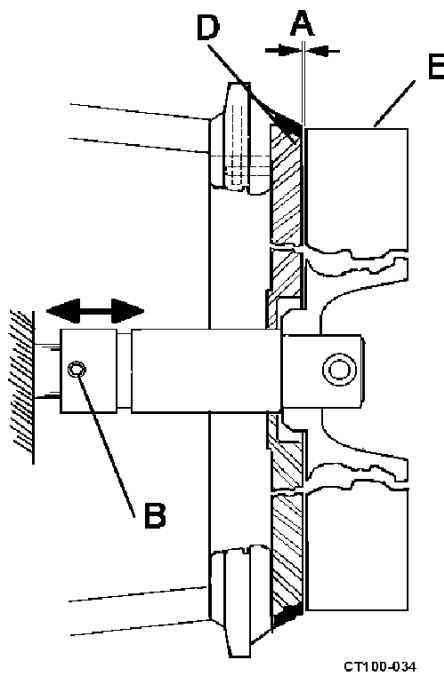

Figure 23 - Setting Backplate/Impeller Clearance
6. Slide the impeller onto the shaft. Hold the impeller tight against the shoulder in the shaft and rotate the shaft one-quarter turn until the impeller pin engages with the impeller. See Figure 23 on page 22.
1. Place a 0.060 ± 0.010 (1.52 mm \pm 0.25 mm) feeler gauge between the front face of the backplate and the impeller. (See Figure 23, item A.)
2. Push the stub-shaft/impeller assembly toward the motor until the impeller (Figure 23, item E) rests against the feeler gauge.
3. Tighten the two setscrews on the stub-shaft. (See Figure 23, item B.)
4. With a feeler gauge, check that the clearance between the rear face of the impeller and the front (inside) face of the backplate is 0.060 ± 0.010 (1.52 mm \pm 0.25 mm). (See Figure 23, item A.)